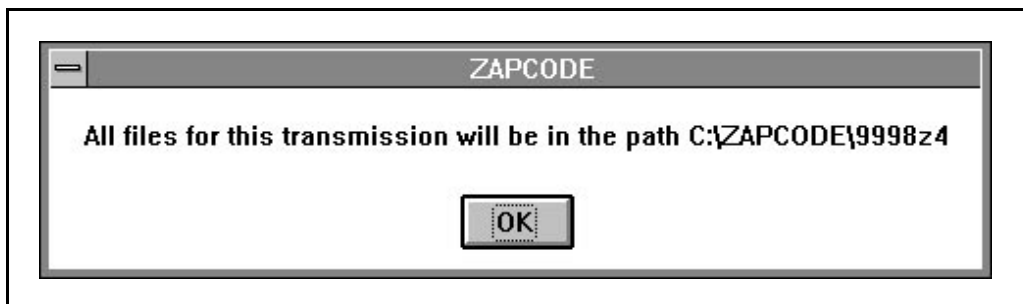

Figure 8-12. Example of a ROM Code Path
5. Read the disclaimer and then click the **OK** button to continue. A screen message will appear giving the path to the directory on your hard drive to which files created for this transmission are copied. Figure 8-12 shows an example of this message.